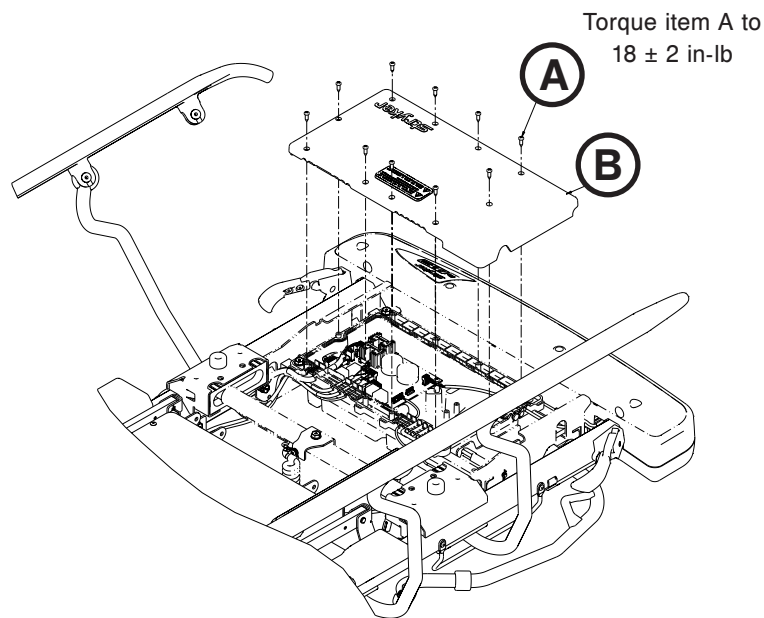

Figure 44
5. Using a #2 Phillips screwdriver, remove the ten pan head tapping screws (A) that hold the control board cover (B) on (Figure 44).